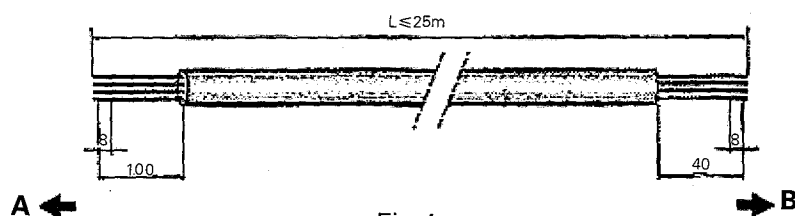

Fig 4
4. Connect the cable ends to the terminals of the indoor and outdoor units , as show in fig4, fig5.